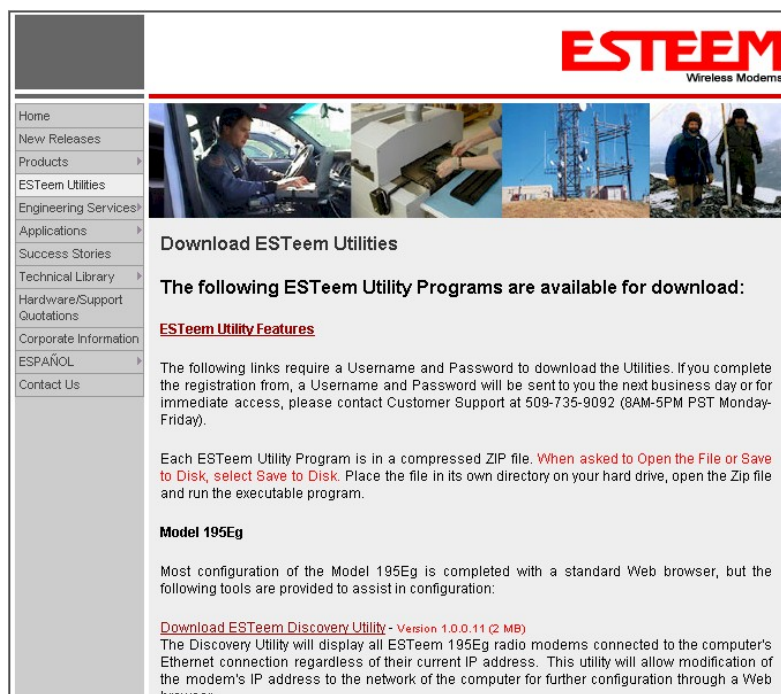

Figure 6: Discovery Utility Download
2. From the Main Page select ESTeem Utilities and click on Download ESTeem Discovery Utility (Figure 6).